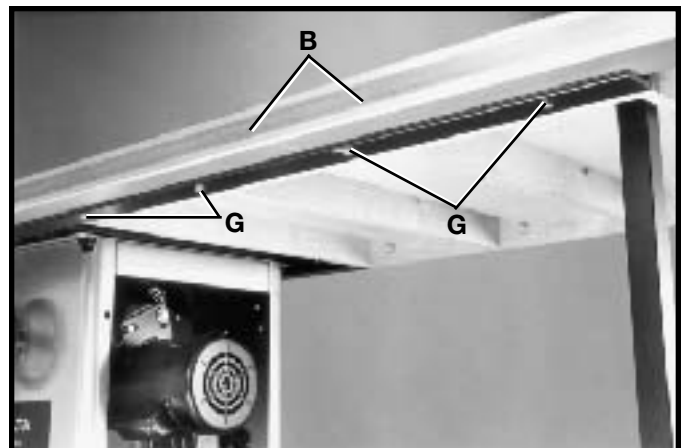

Fig. 22
2. Position the guide tube (B) Fig. 22, on the front rail and fasten the guide tube to the rail using the 1/2" long hex screws (G) and lockwashers in all of the holes.